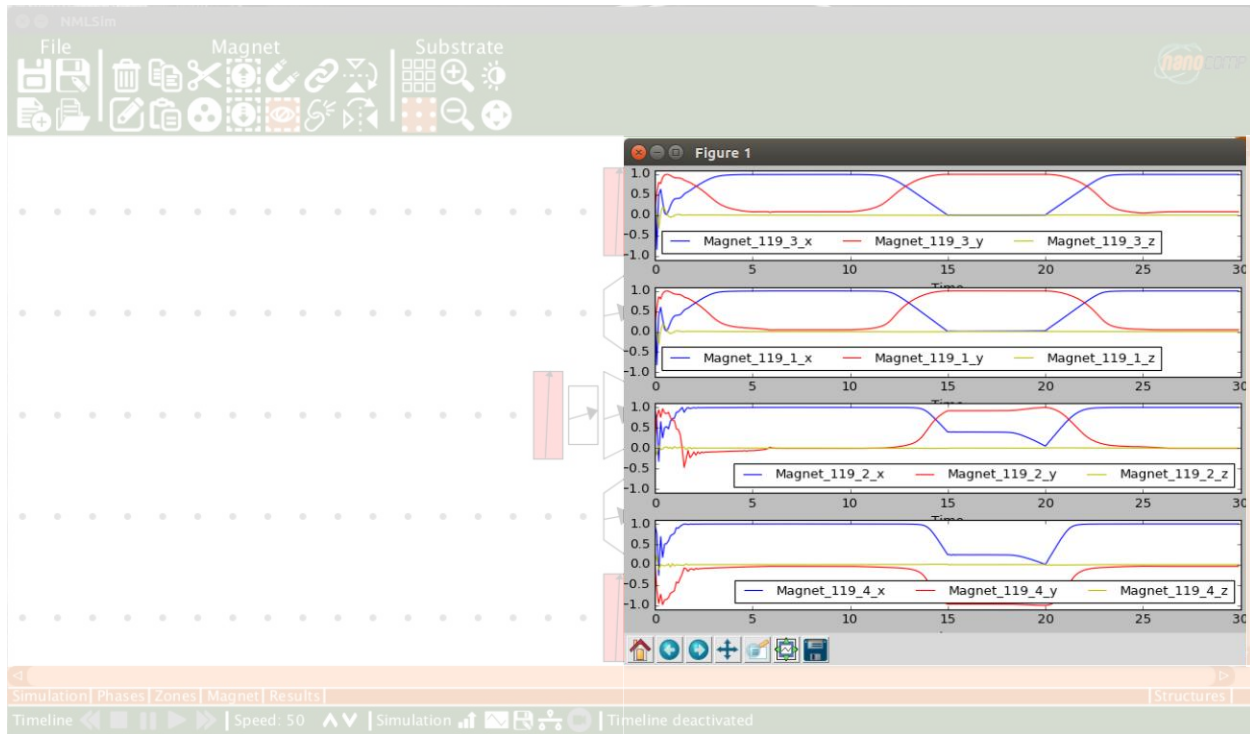

Figure 20. Chart plotted by python matplotlib, highlighted in red.
- **Plot Chart:** plots the chart of the magnetization over time for the selected magnets (Figure 20). Note that this button plots with default values and not the ones set in “results panel.”